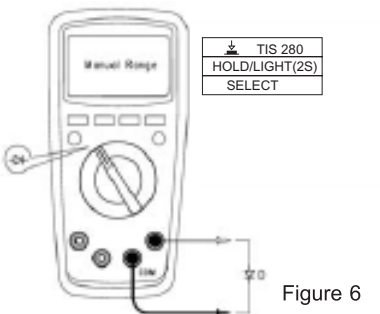

Figure 6
4. Diode measurement (Figure 6)